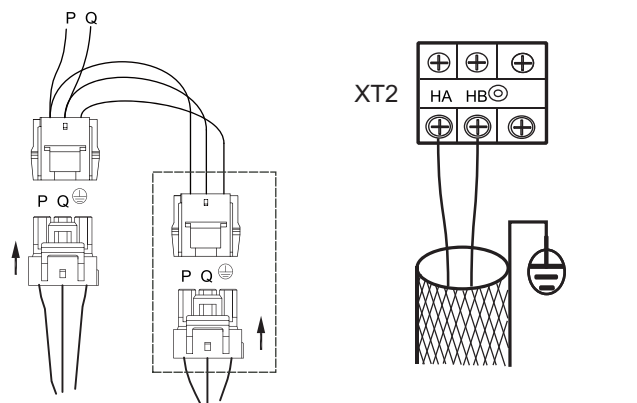
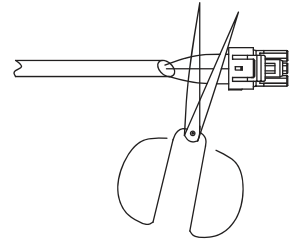

Fig. 6 — Communication Wire Connection
Fig. 7 — Shearing Outdoor Connector
- See Fig. 6 and Fig. 7.
1. Cut the connector on the outdoor unit side as shown in Fig. 7.